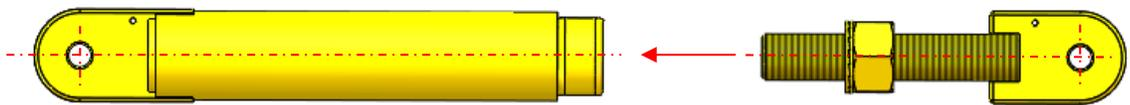

Figure: 4.11 Threading the blower support arm adjustable
5. Measure the approximate distance between the lugs on motor guard using a tape measure. Screw in the adjustable lug onto the main body until the distance between the lugs are the same as the measurement taken. See Figure 4.11.